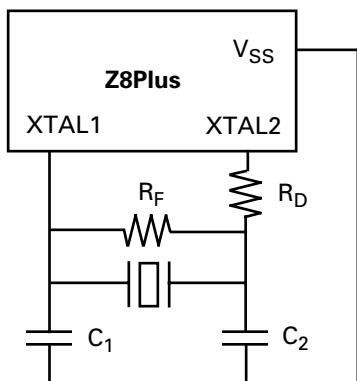
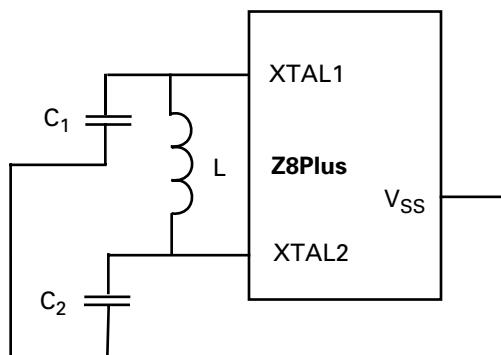
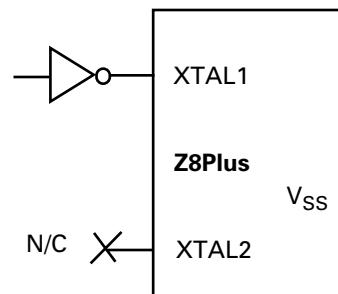

Figure 16. Crystal/Ceramic Resonator Oscillator
Figure 17. LC Clock
Figure 18. External Clock
Crystals and ceramic resonators (Figure 16) should exhibit the following characteristics to ensure proper oscillation:
Depending on the operation frequency, the oscillator may require additional capacitors, C_1 and C_2 , as illustrated in Figure 16 and Figure 17. The capacitance values are dependent on the manufacturer's crystal specifications.
Figure 16, Figure 17, and Figure 18 recommend that the load capacitor ground trace connect directly to the V_{SS} (GND) pin of the Z8Plus. This requirement assures that no system noise is injected into the Z8Plus clock. This trace should not be shared with any other components except at the V_{SS} pin of the Z8Plus.
The Z8Plus oscillator can use an inductor capacitor oscillator (LC) network to generate an XTAL clock (Figure 17). The frequency stays stable over V_{CC} and temperature. The oscillation frequency is determined by the equation: